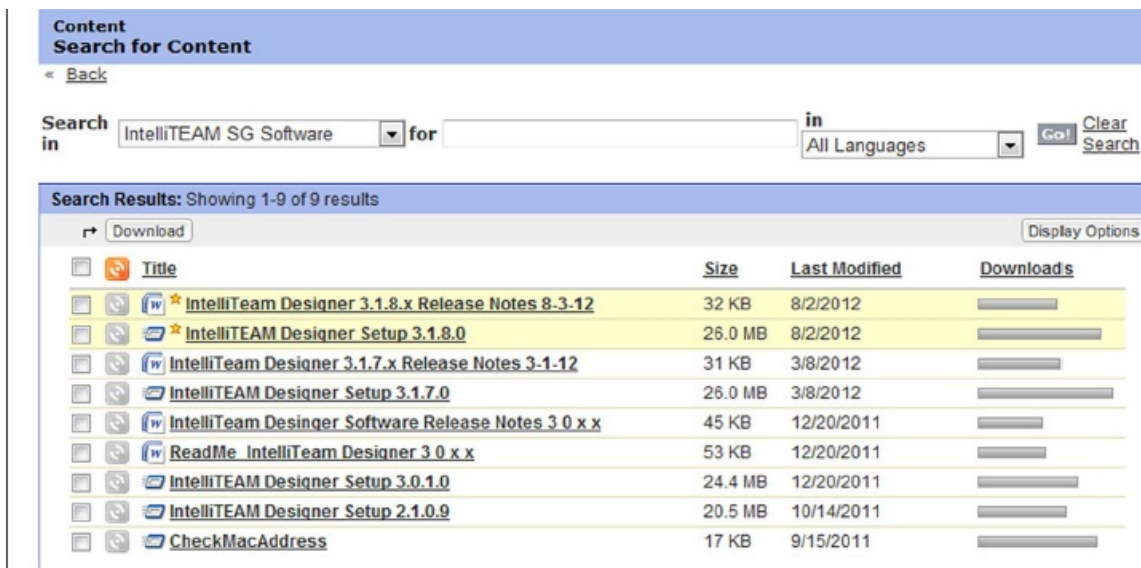

Figure 2. The IntelliTeam SG Software workspace on the S&C Automation Customer Support Portal.
- If unfamiliar with the command prompt, obtain the S&C CheckMacAddress utility found in the IntelliTeam SG Software workspace on the S&C Customer Portal. See Figure 2. When the MAC address is obtained, send an email to customerportal@sandc.com with the name of the company that owns the IntelliLink software license, the name of the primary computer user, and the computer user's email address and phone number.